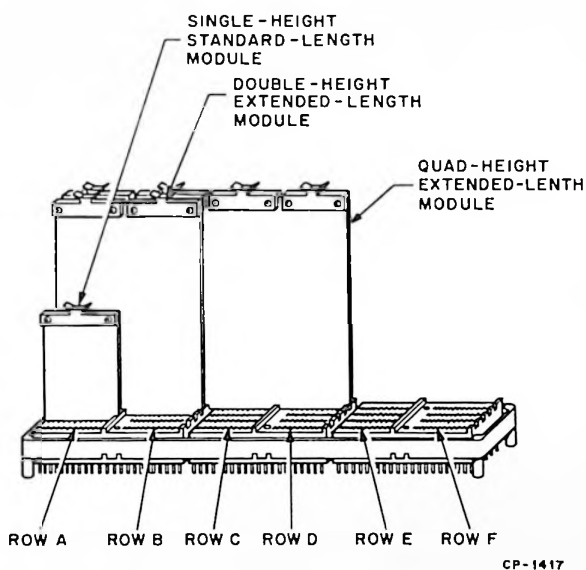

Figure 4 Typical Modules Installed in an H033 Four-Slot System Unit Equipped with Three H863 Module Connector Blocks
Some DIGITAL module connector blocks accommodate only *single-height* modules and others accept either *single-height* or *double-height* modules. No single connector block can accommodate *quad-height* modules; *quad-height* modules must be mounted in mounting frames, system units, or module drawers comprising module connector blocks with slotted ends so that four module slots are arranged end to end (i.e., at least two H863 or H8030 Module Connector Blocks mounted end to end). *Single-height* modules are 2.417/2.452 in. (6.139/6.228 cm) high, *double-height* modules are 5.167/5.202 in. (13.124/13.213 cm) high, and *quad-height* modules are 10.437/10.472 in. (26.510/26.599 cm) high (Figure 4).
*Single-height* modules (standard length and extended length) may be plugged into the upper (row A, C, or E) or lower (row B, D, or F) module slot of a connector block (Figure 4). Contact fingers A1 through V1 are on side 1
*Double-height* modules (standard length and extended length) have two plug-in sections of contact fingers and occupy two module slots (rows A and B, C and D, or E and F) of a connector block (Figure 4). The two plug-in sections are identified by the designations A and B. Contact fingers A1 through V1 and A2 through V2 of the A section are designated AA1 through AV1 and AA2 through AV2, respectively; contact fingers A1 through V1 and A2 through V2 of the B section are designated BA1 through BV1 and BA2 through BV2, respectively (Figure 2). Note that the positioning notch in the module base must mate with the protrusion on the connector block for correct positioning.
*Quad-height* modules (always extended length) have four plug-in sections of contact fingers and occupy four module slots (rows A through D or C through F) of two connector blocks (Figure 4). The four plug-in sections are identified by the designations A, B, C, and D. The four sections of contact fingers are designated AA1 through AV1 and AA2 through AV2; BA1 through BV1 and BA2 through BV2; CA1 through CV1 and CA2 through CV2; and DA1 through DV1 and DA2 through DV2 (Figure 3).